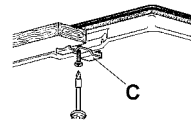

Fig.6
- Introduce and place the cook-top in the hole made in the piece of furniture, then block it with the V screws of the fastening hooks G (fig. 6).